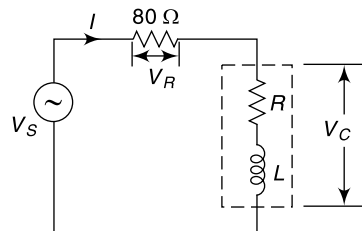

Fig. 5.86
22. Figure 5.86 shows a circuit in which a coil having resistance R and inductance L is connected in series with a resistance of 80Ω . The combination is fed from a sinusoidal source.